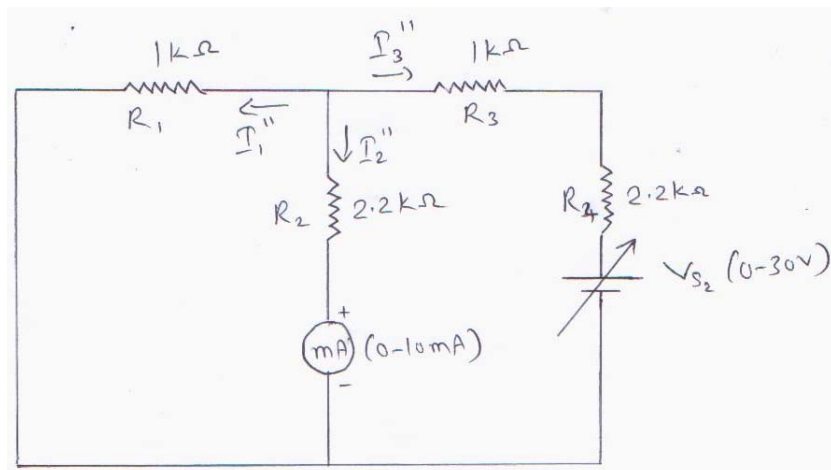

Figure 4.3
4. Now  $V_{S1}$  is short circuited. Vary  $V_{S2}$  & take the corresponding reading  $I_2^{11}$  from the ammeter as shown in figure 4.3